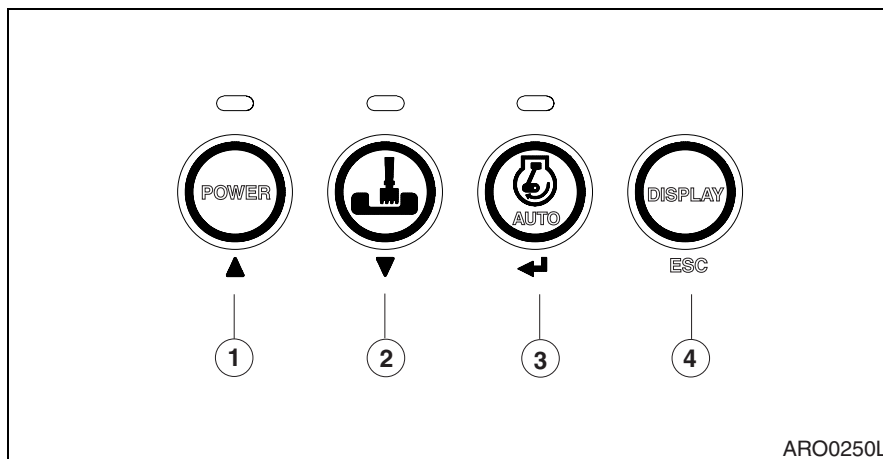

Figure 51
- Up Arrow Button (▲, 1 on Figure 51): Used to move a menu item to "Up" or "Left" direction.
- Down Arrow Button (▼, 2 on Figure 51): Used to move a menu item to "Down" or "Right" direction.
- Enter Button (↵, 3 on Figure 51): Used to set a menu or clear the operating hour of filter/oil.
- Menu / Exit Button (ESC, 4 on Figure 51): Used to access to main menu or return to previous screen from each sub-menu.